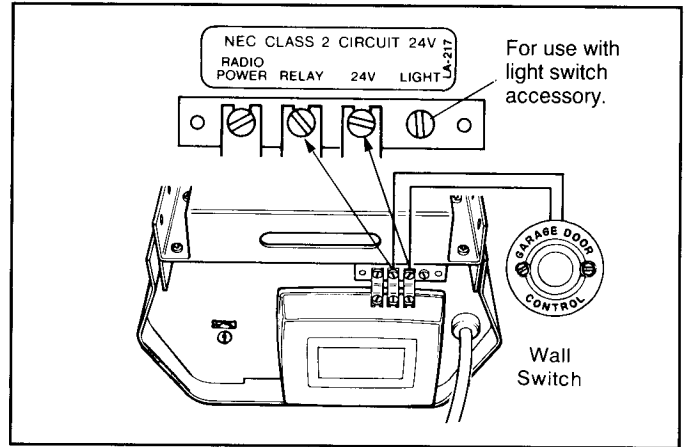

Figure 14. Wall Station Connections.
Step 31: Cut off excess wire at the power head, strip wire ends and attach one wire to terminal marked "RELAY". Attach the other wire to terminal marked "24V". (See Figure 14.)